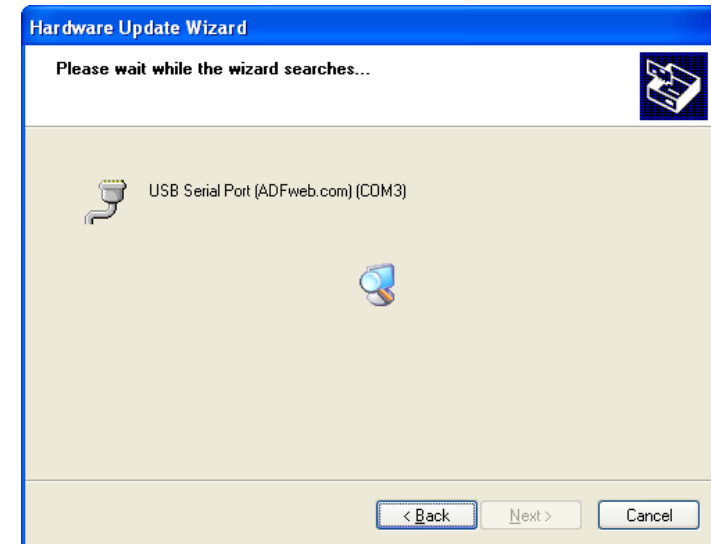

Figure 8: "Hardware Update Wizard" window
7. Now you should install the USB Serial Port (ADFweb.com) driver (Fig. 8);